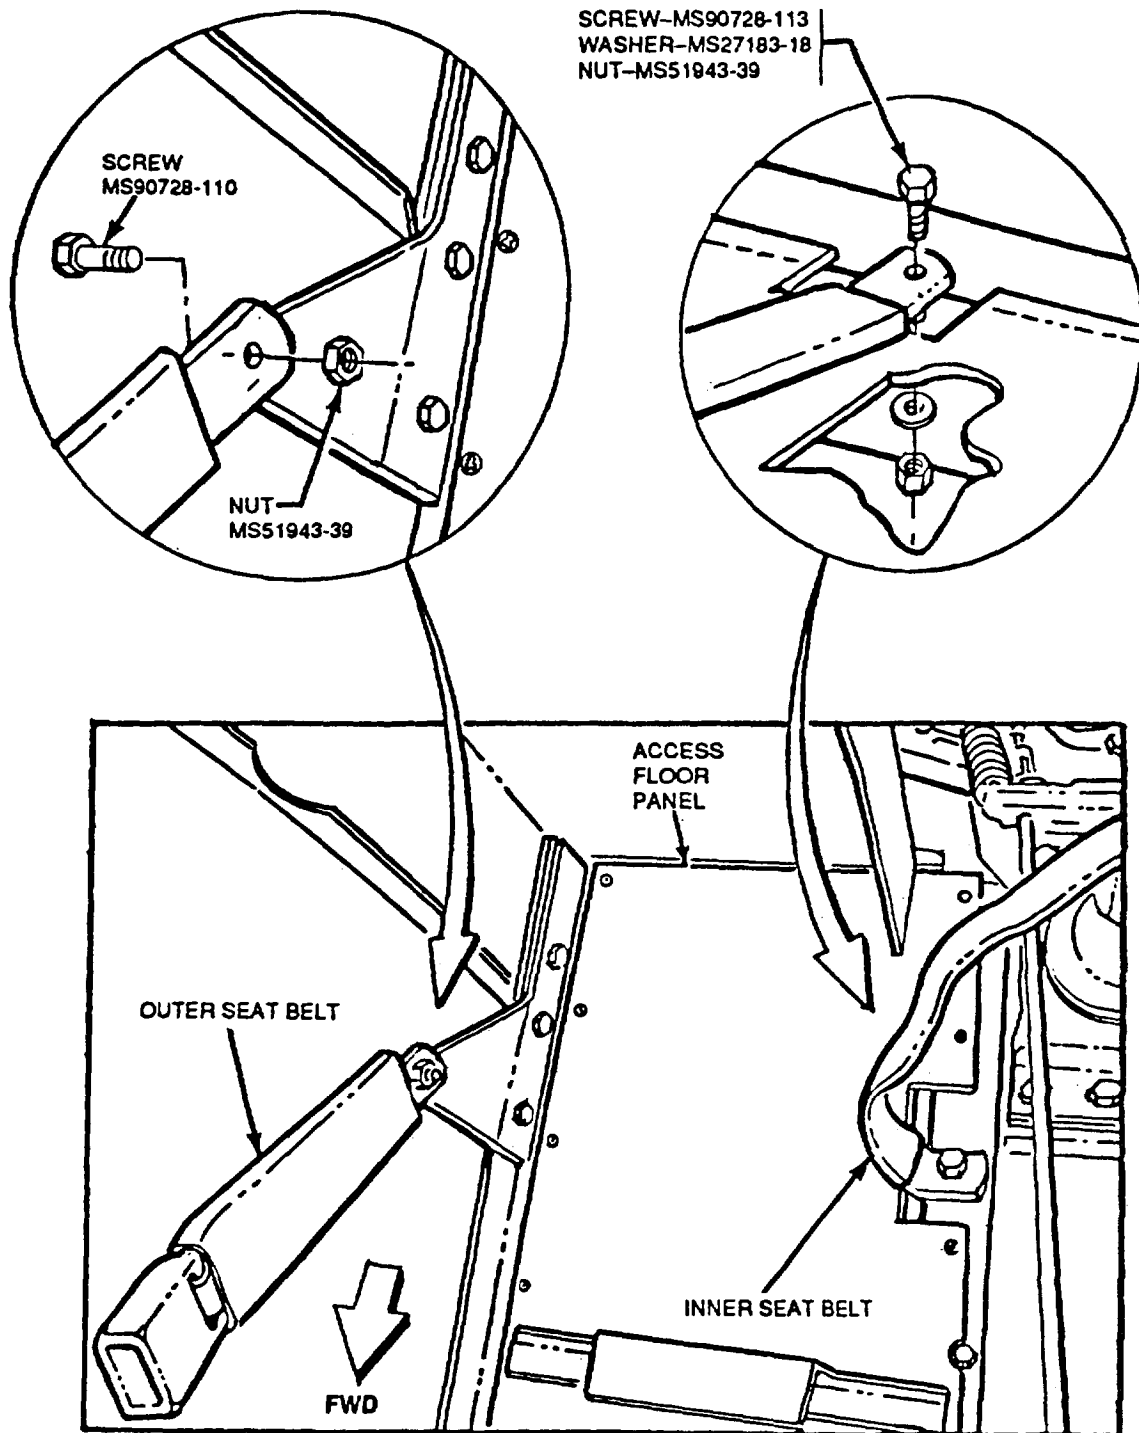

Figure 6. Passenger's Side Shown
(g) Install outboard seat belt to 12370472-1 bracket using MS90728-110 screw and MS5194339, finger tight. (figure 6)
(i) Tighten outboard seat belt attachment screw (MS90728-110) and nut (MS51943-39) to 100-110 lbs. ft. (figure 6).
(j) Install inboard seat belt to floor using MS90728-113 screw, MS27183-18 washer and MS51943-39 nut. Tighten screw to 100-110 lbs. ft.. (figure 6).
a. When installed correctly, seat belt modification to driver's seat and companion seat will appear as in figure 6.